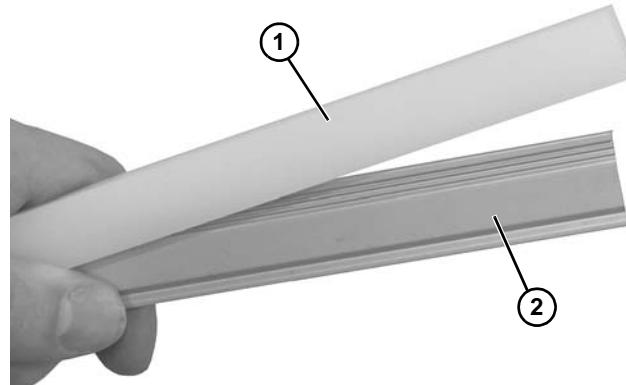

Figure 28
1. Attach wear strip (**Figure 28, item 1**) to guiding (**Figure 28, item 2**).